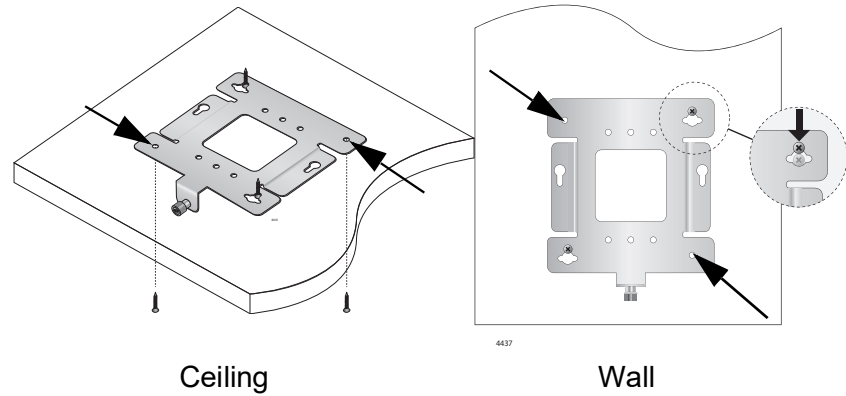

Figure 10. Pre-Drill Holes for Mounting Bracket
5. Secure the physical position of the mounting bracket by pre-drilling holes through the two existing open bracket mounting holes in the opposite corners from the key-hole slots. Refer to the arrows in Figure 10.